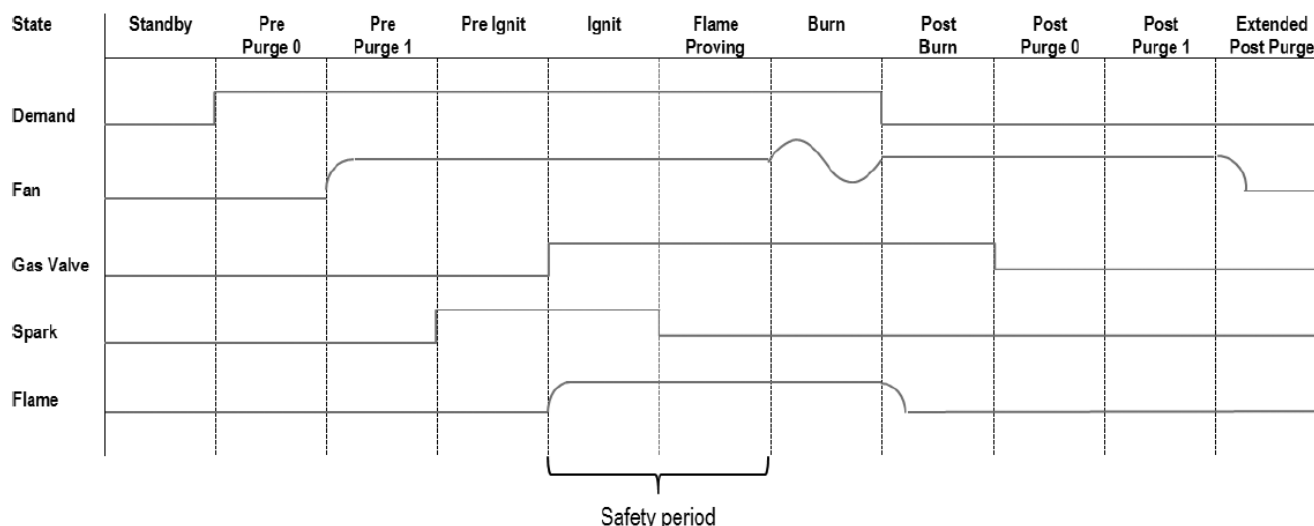

Figure 8.4: Ignition Sequence
Figure 8.4 shows a typical ignition and burn cycle for the Peak boiler. Pre-purge and Post Pure periods are shown in a compressed fashion to show the ignition process in detail.
4. Use the ignition sequence, Figure 8.4 to follow the light off and shutdown sequences and to assist in troubleshooting operation problems. If the boiler does not function properly, consult Section 10, Troubleshooting.